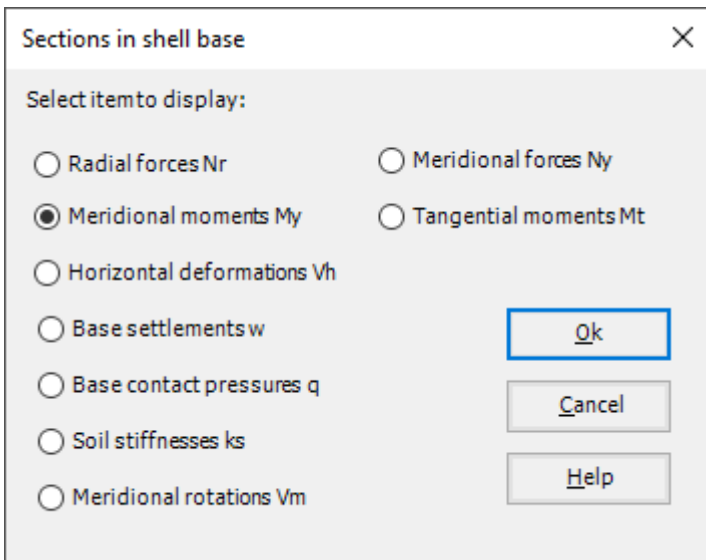

Figure 9.30 "Sections in shell base" option box
- Choose "Sections in shell wall" command from "Section" menu. The following option box in Figure 9.30 appears
- Choose "Sections in shell base" command from "Section" menu. The following option box in Figure 9.30 appears